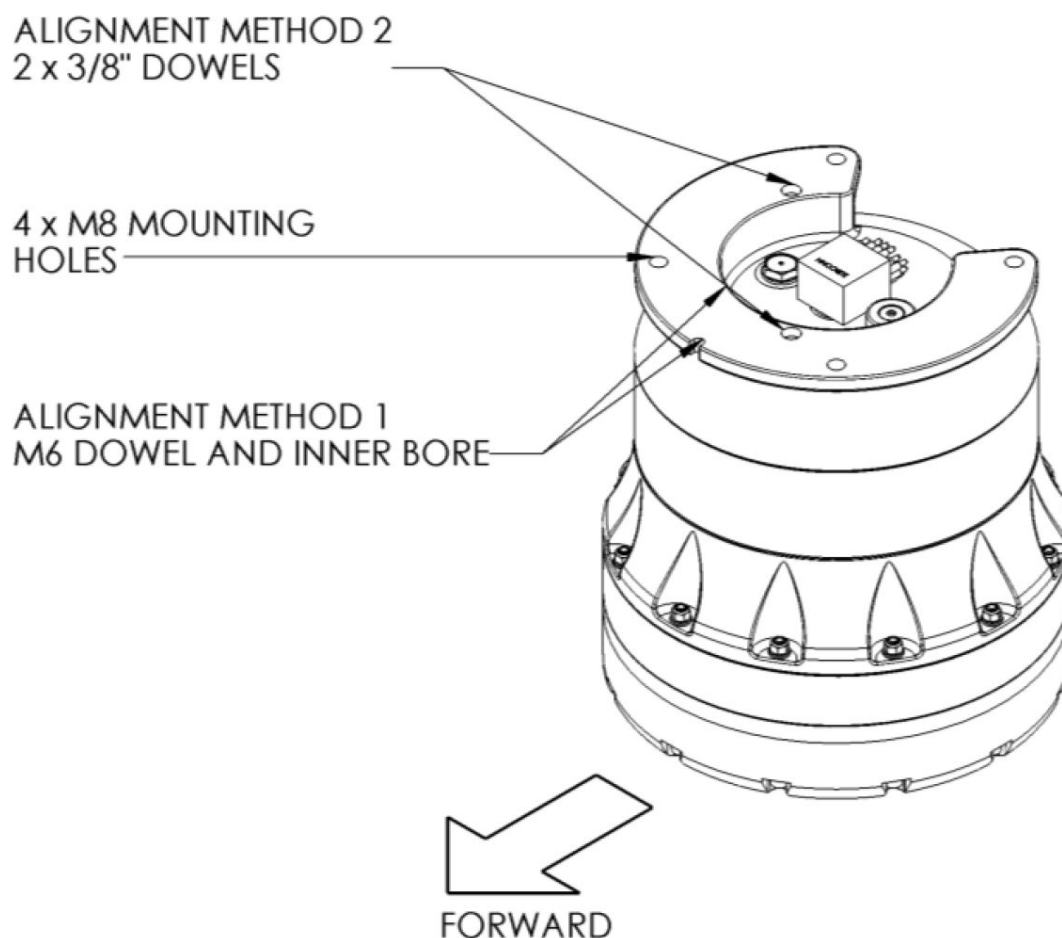

Figure 3.2. Alignment Methods
2. Method 2 uses two 3/8 Inch dowels as shown in Figure 3.2, “Alignment Methods”